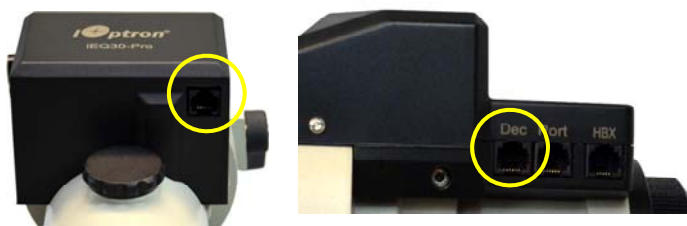

Figure 8
- 8. Connecting Cables:** Attach one end of a coiled RJ-11 cable into the socket on the bottom of the DEC unit (Figure 8 Left) and the other end into the DEC port located on the side of main control board (Figure 8 Right).